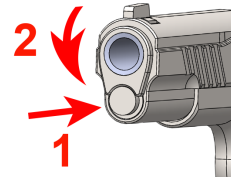

Figure 47
- Install the recoil spring plug onto the recoil spring. While fully controlling the recoil spring plug, compress it into the slide and rotate the barrel bushing over it so the recoil spring plug nests into the bottom of the barrel bushing – Figure 47.